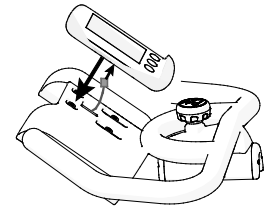

Figure 1
2. Place the console on top of the handlebars (Figure 1).